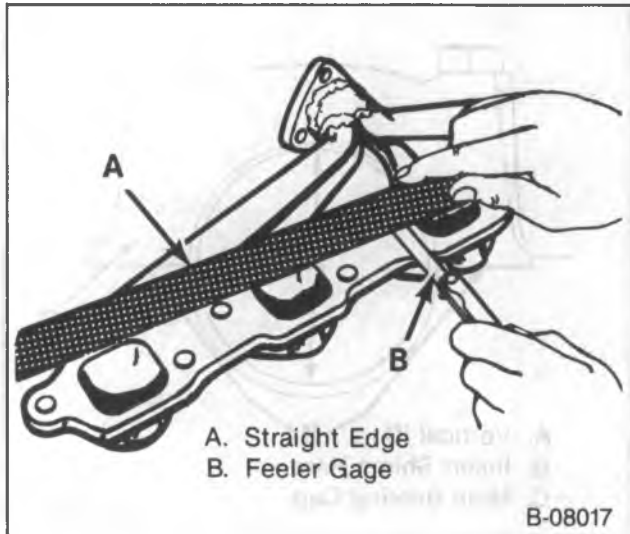

Figure 28—Checking Alignment of Manifold Flanges (Typical)
👁 Inspect (Figure 28)
- Alignment of exhaust manifold flanges. Use a straight edge and feeler gage (figure 28). If the flanges do not align, the manifold is warped and should be replaced.